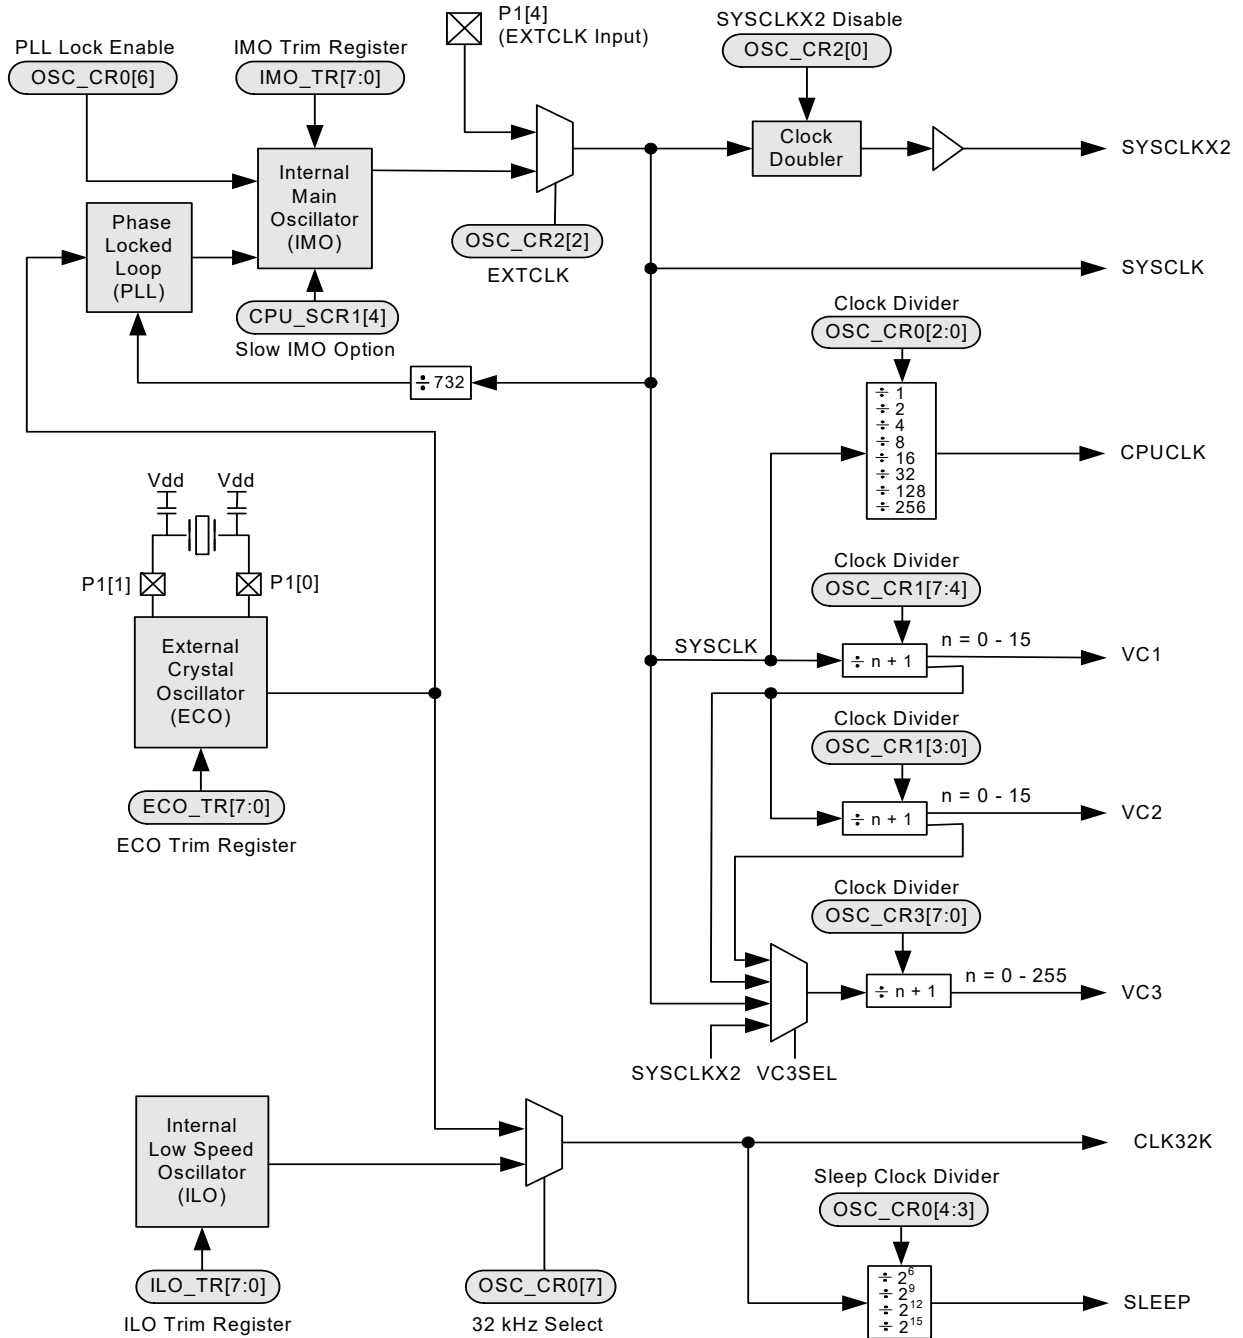

Figure 25-1. Overview of PSoC Clock Sources
The PSoC M8C core has a large number of clock sources that increase the flexibility of the PSoC programmable system-on-chip, as listed in Table 25-1 and illustrated in Figure 25-1.
The ability to replace the 24 MHz internal main oscillator (IMO), as the device master system clock (SYSCLK) with an externally supplied clock, is a feature in the PSoC programmable system-on-chip (see Figure 25-1).
**Bits 1 and 0: VC3 Input Select [1:0].** The VC3 clock net is the only clock net with the ability to generate an interrupt. The input clock of VC3 comes from a configurable source. As shown in Figure 25-1 on page 443, a 4-to-1 mux determines the clock that is used in the input to the VC3 divider. The mux allows either the 48 MHz, 24 MHz, VC1, or VC2 clocks to be used as the input clock to the divider. Because the selection of a clock for the VC3 divider is performed by a simple 4-to-1 mux, **run pulses** and glitches may be injected to the VC3 divider when the OSC\_CR4[1:0] bits are changed. Care should be taken to ensure that blocks using the VC3 clock are either disabled when OSC\_CR4[1:0] is changed or not sensitive to glitches. Unlike the VC1 and VC2 clock dividers, the VC3 clock divider is 8-bits wide. Therefore, there are 256 valid divider values as indicated by Table 25-3.